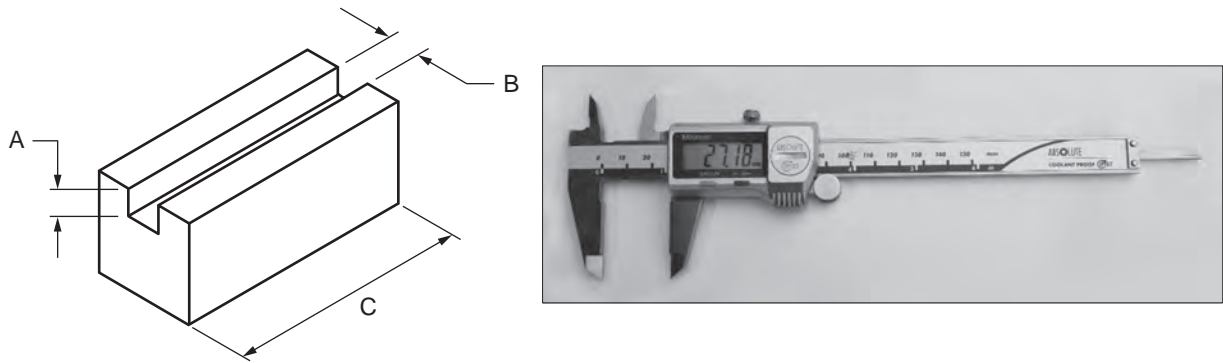

Figure 6
Figure 6 shows a component with three features, A, B and C, that need to be measured and the measuring tool that will be used.
- a. What is the name of the measuring tool shown in Figure 6? 1 mark
- b. List two possible causes of an inaccurate reading when using the measuring tool shown in Figure 6. 2 marks